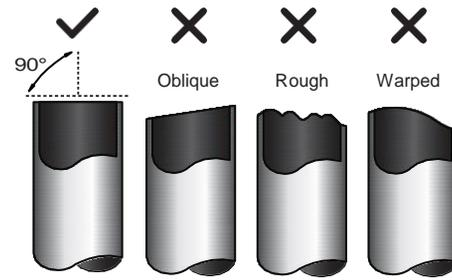

**Fig. 7.4**
- It is recommended that vertical suction risers not be upsized. Proper oil return to the compressor should be maintained with suction gas velocity. If velocities drop below 7.62 m/s (1500 fpm (feet per minute)), oil return will be decreased. An oil trap should be installed every 6 m (20 ft) of vertical suction line riser (see Fig. 7.4).